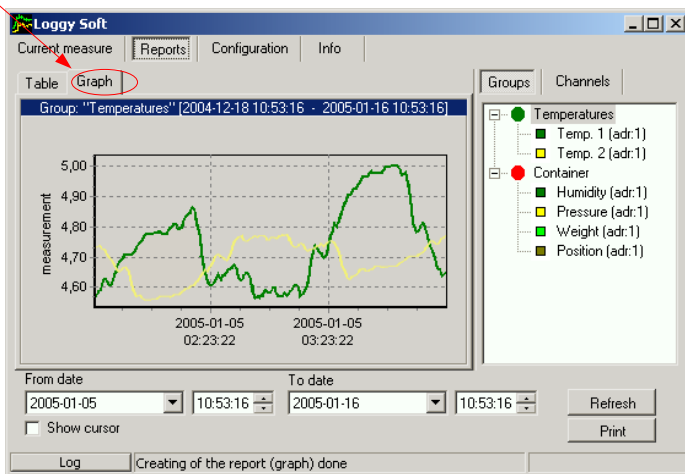

Fig. 3.6. Reports - *Graph* tab
Graph tab (Fig. 3.6) is used for viewing and printing of measurement results recorded by an **PMS-90R** device (e.g. temperature, humidity) in the form of a graph. Measurements from a maximum of five recorded measurement channels can be viewed.
- **graphs area** - plots measured values (e.g. temperature, humidity) in function of time. Each channel is distinguished by a different colour (Fig. 3.6);
- click appropriate tab **Groups** or **Channels** (Fig. 3.6),